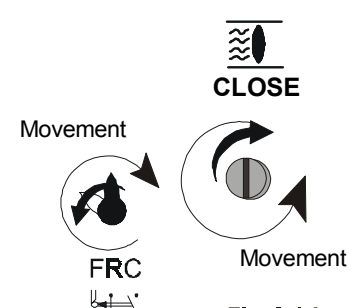

Fig. 8.4.3
- Turn U spindle clockwise (Figure 8.4.3) until Z spindle turns Counter-clockwise (At this moment FRC microswitch triggers). Just before FRC microswitch was tripped, Z red arrow should be pointed to vertical: When Z spindle (Red arrow) turns to left the FRC microswitch is tripped.